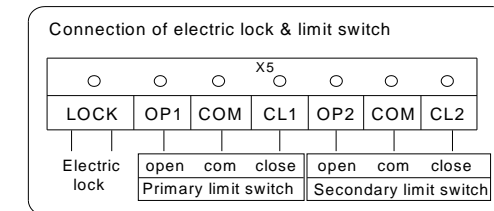

Fig.20
Connect two wires of electric lock to port 'LOCK'. Wire size should be more than 1.5mm2. see Fig.20
**Limit switch** (see Fig.20)